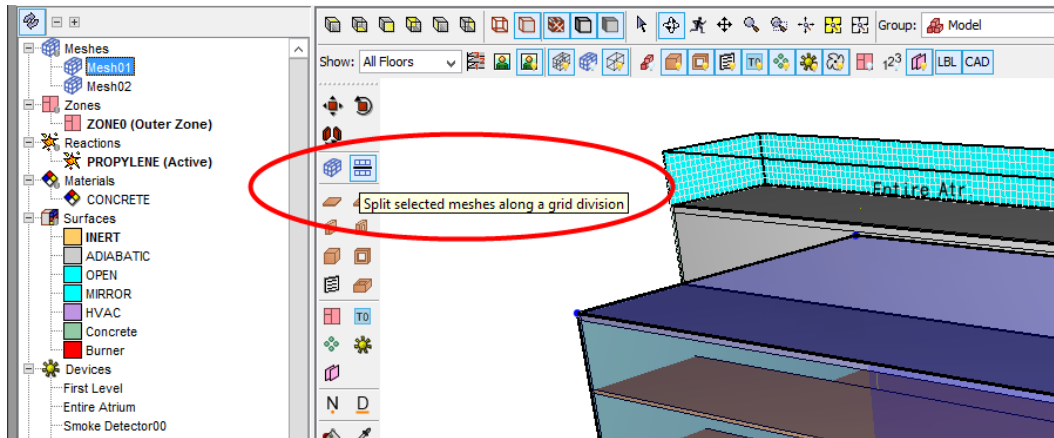

Figure 5: Select the Split Mesh tool
2. In the **Navigation View**, select **Mesh01** and then select the **Split Mesh** tool, Figure 5.